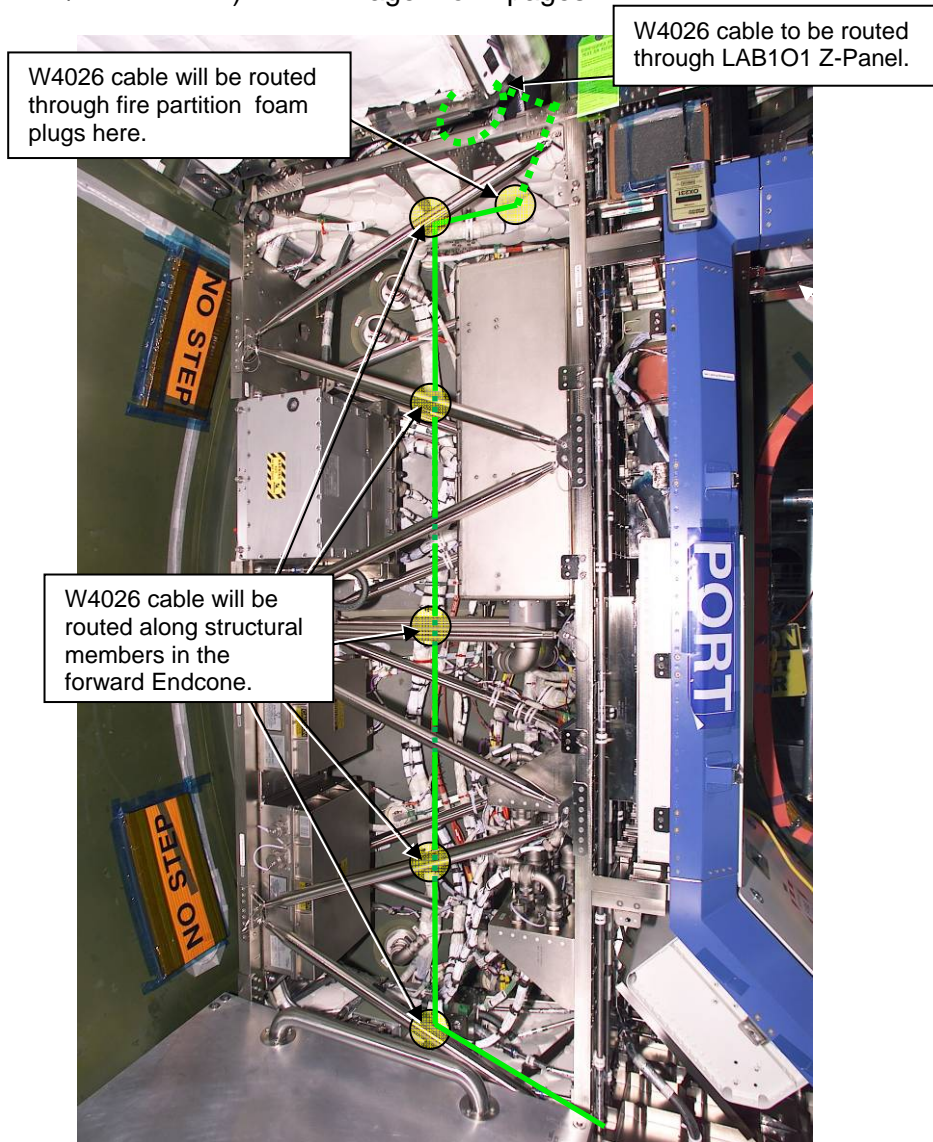

Figure 4.- W4026 Cable Routing in LAB Fwd/Port Endcone.
6. Route W4026 cable along forward end of Lab Forward/Port endcone, securing to structural members as necessary (Wire Ties). Refer to Figure 4.
Refer to Figure 4.
Refer to Figures 4 and 5.